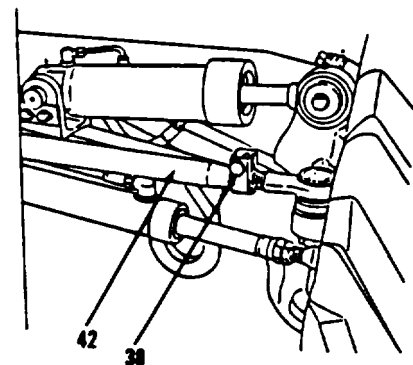

Figure 5-83.
6. Loosen lock nut (38, Figure 5-83) if adjustment is necessary.
7. Turn steering tie rod (42) in direction needed to obtain the distance required.
8. Tighten lock nut (38) to 55 ft-lb torque.